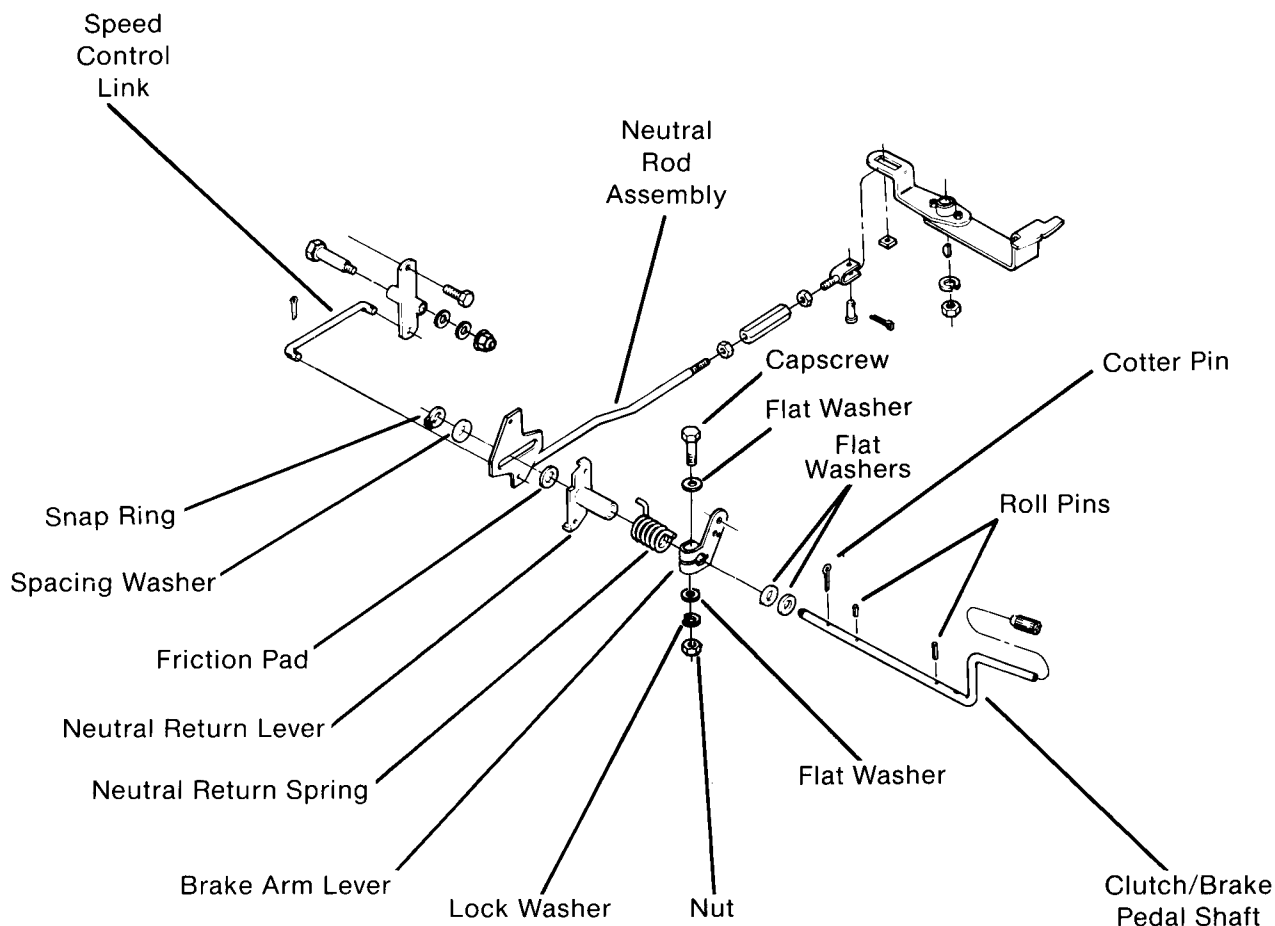
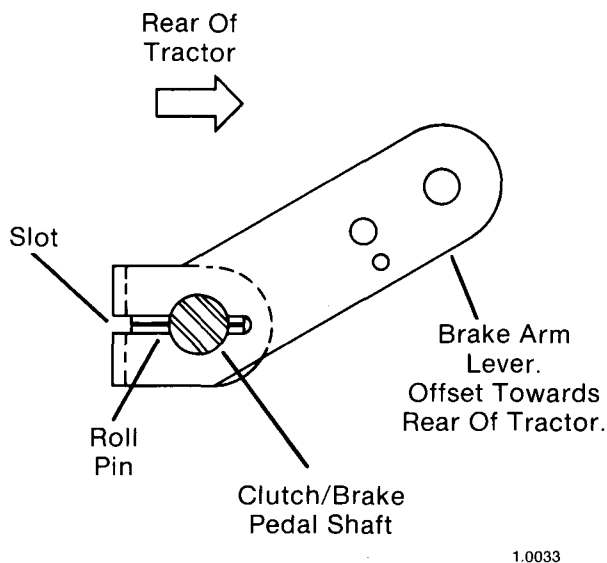

FIG. 67
FIG. 68
D. Remove snap ring and spacing washers on right outer end of clutch/brake pedal shaft. (Fig. 67)
E. Unbolt capscrew, washers and nut from brake arm lever and pry brake arm lever to the right on shaft. (Fig. 67)
NOTE: When relocating brake arm lever onto clutch/brake pedal shaft, roll pin **must** fit into slot on brake arm lever. (Fig. 68) Note also that the offset of brake arm lever must be towards the rear of the tractor when properly installed on shaft (Fig. 68). Remove cotter pin from speed control link attached to the bottom hole in the neutral return assembly. (Fig. 67)
- F. Push clutch/brake pedal shaft to the left and remove cotter pin thru right inside end of shaft. (Fig. 67)
- G. Punch out both roll pins thru clutch/brake pedal shaft. (Fig. 67)
NOTE: Position and location of all parts on shaft. Reference (Fig. 67) for proper location of parts during reassembly.